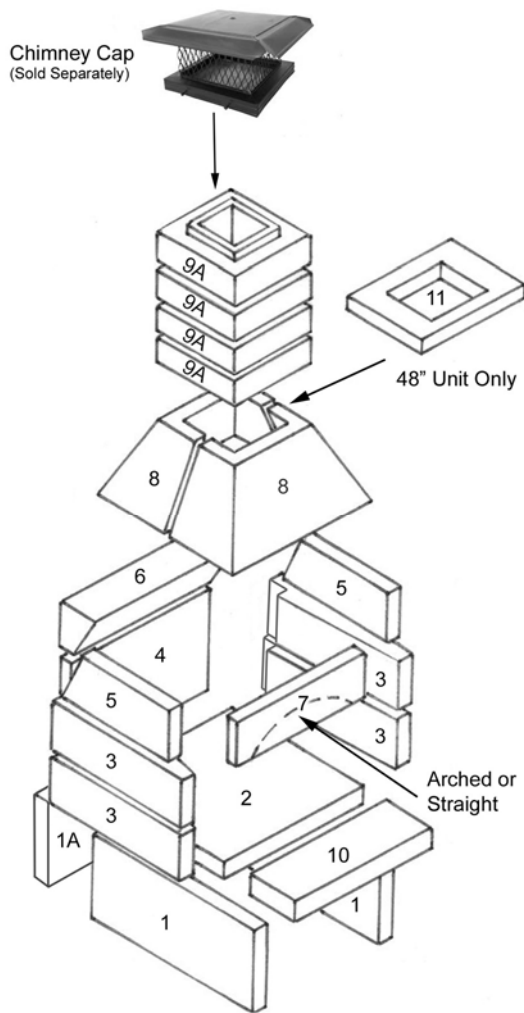

Figure 2. Fireplace Components
The fireplace is delivered as a kit with all components necessary to complete the installation. Component arrangement, some of which is optional, is shown in Figure 2. Dimensions of the various components are shown in Table 1. Specifications and installation dimensions are shown in Table 2.
- C. After installation of the back header (6), install the firebrick inside the firebox. Line the floor, then the back and then the sides. Apply approximately ¼ to ½ -inch thick layer cement to the back of the brick, and approximately 1/4 -inch mortar joint around the brick.
- D. Continue with the installation with front header, throat and flue (7, 8 and 9). The front header (7) can be arched or straight. Add as many flue sections (9) to reach desired chimney height.
- E. If installing the SA 48-inch fireplace, install the throat-to-flue adapter, item 11, shown in Figure 2 and listed as item 11 in Table 2. It is installed between items 8 and 9.